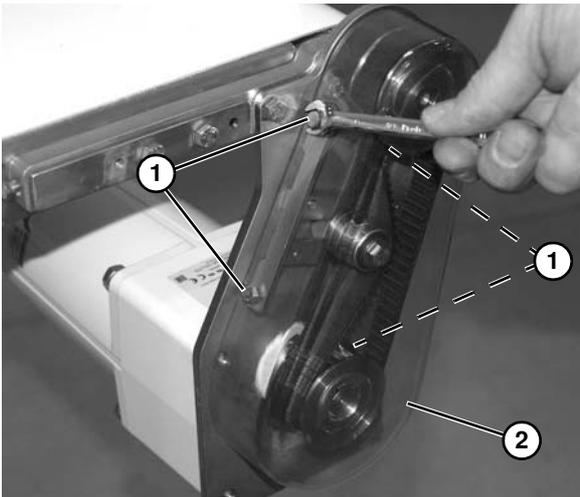

Figure 68
*Figure 68 through Figure 71 shows tensioning procedure for a timing belt. Tensioning a timing chain is similar except as noted.*
1. Loosen four (4) screws (Figure 68, item 1) and remove cover (Figure 68, item 2).